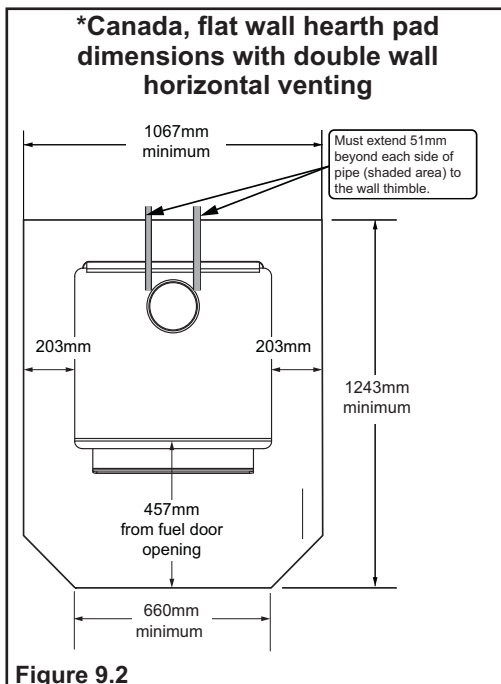

Figure 9.2
**In Canada**, similar floor protection must be provided 18 inches (457mm) in front and 8 inches (203mm) from the sides and rear of the appliance unless the hearth pad is placed against the wall (**Figure 9.2**). Then the clearance may be reduced using double wall pipe and the Clearance to Combustibles table listed on page 10.
**\*Exception:** Non-combustible floor protector must extend beneath the flue pipe when installed with horizontal venting and extend 2 inches (51mm) beyond each side (**See Figure 9.2**).